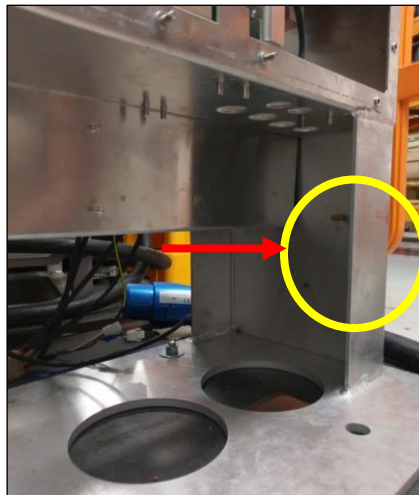

Figure 18: UU earth stud location
Terminate the local earth electrode to the body of the UU on the same stud as the protective earth cable (Figure 18: UU earth stud location).
2. Measure and cut to required length to terminate to stud located in Figure 18: UU earth stud location.